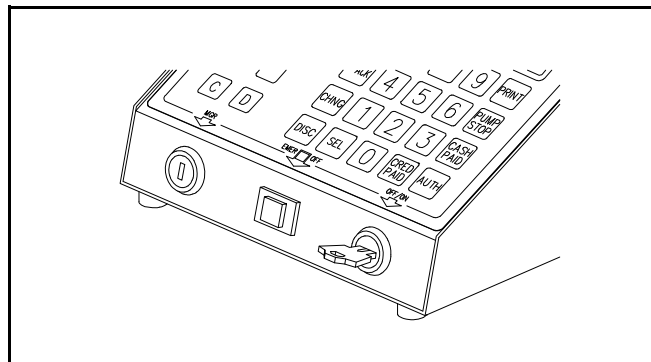

Figure 17
2. Put the console OFF/ON key switch in the ON (horizontal) position. See Figure 17.